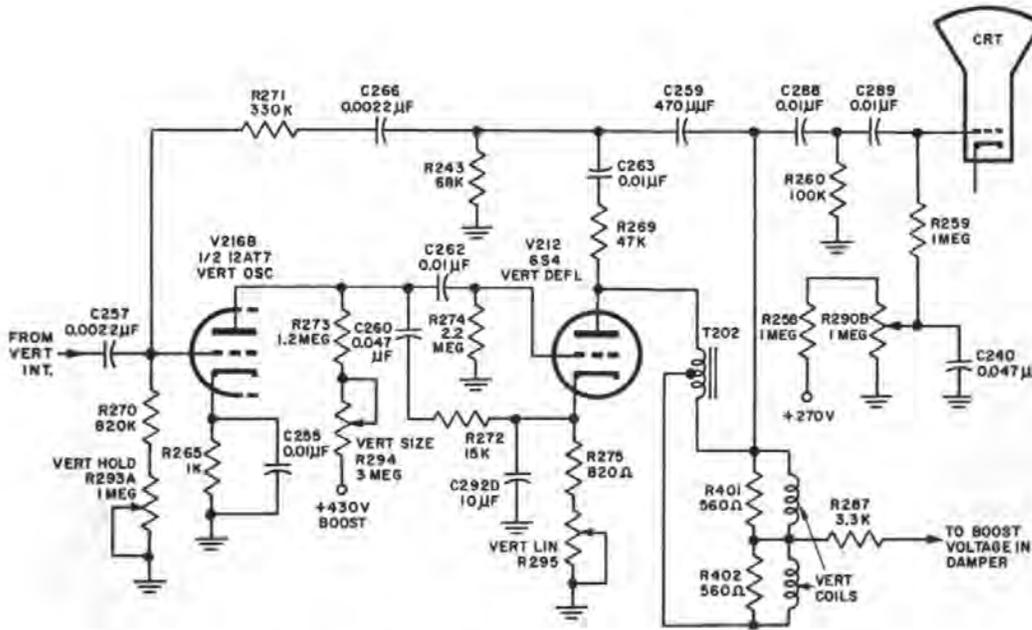

Fig. 6-5. Vertical-sweep section with feedback and vertical-retrace blanking circuits. After Allen B. DuMont Labs., Inc.
**QUES. 6-5.** The picture collapses to a thin white vertical line, intermittently. The vertical deflection tubes (*V216B* and *V212* in Fig. 6-5) are checked and found to be good. In the circuit illustrated in Fig. 6-5, what is the probable cause of trouble?
**ANS.** Capacitor *C259*, in the plate circuit of the output tube in Fig. 6-5, is shorting intermittently. Check the capacitor, and replace if necessary.
DISCUSSION. In many modern receivers, voltages are fed back from the plate circuit of the vertical output stage or from the secondary of the output transformer (as in the circuit illustrated in Fig. 6-5) to sustain the vertical oscillators. Those capacitors which are directly concerned with the feedback process have transient voltages applied to them of high amplitude. As a result, these capacitors, although of relatively high breakdown ratings (*C263* has a rating of 1000 volts and *C259* of 2000 volts), frequently become defective. Good servicing procedure requires that these capacitors be kept in mind as likely causes of trouble.
QUES. 6-6. The picture height intermittently shrinks. The width of the picture is normal at all times. The vertical deflection tube or tubes are checked and found to be good. In the circuit illustrated in Fig. 6-5, what may be the cause of trouble?
ANS. Check resistor *R287*, connecting to the yokes in Fig. 6-5. Intermittent breakdown of this resistor will affect the vertical height without affecting the width.
trast control must be turned to maximum to observe a picture, and retrace lines are clearly visible at this time. The picture tube is checked and found to be good. In the circuit illustrated in Fig. 6-5, what is the probable cause of trouble?
ANS. Capacitor *C289*, in the vertical retrace blanking circuit at the picture tube grid of Fig. 6-5, is shorted or leaking. Check the capacitor and replace, if necessary.
DISCUSSION. Because of the symptoms of lack of brightness, poor contrast, and visibility of retrace lines, servicing the receiver illustrated in Fig. 6-5 would almost of necessity start at the grid of the picture tube, once the technician had satisfied himself that tube trouble could not be the cause of the symptoms. If *C240* in the grid return circuit of the picture tube were checked and found to be good, *C289* would be the next to be checked. It is quite obvious from an examination of the schematic that if *C289* did short, the grid circuit would be grounded through resistor *R260*. Thus no positive potential could be applied from the arm of the brightness control to the crt control grid. Brightness would have to become low, and retrace lines would have to be visible, since *C289* is in the retrace blanking circuit.